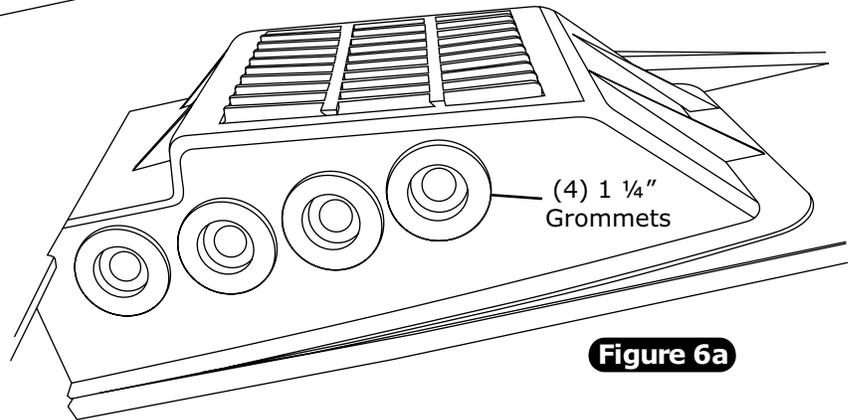

Figure 6a
2. Install (4) 1 ¼" grommets in airbox. (See Figure 6a, below).